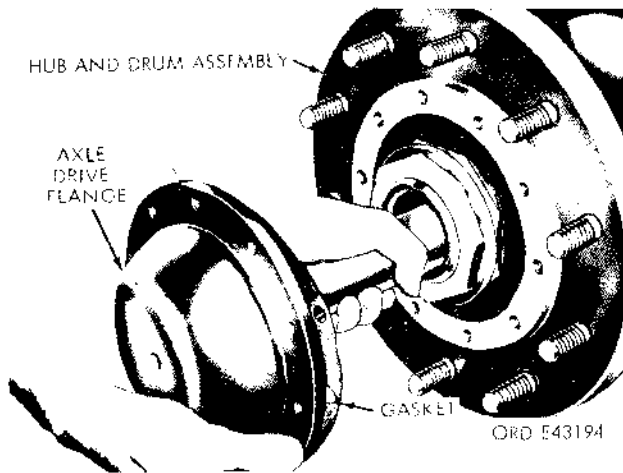

Figure 2-175. Removing rear axle shaft.
(1) Remove the 10 screws and lockwashers securing the axle drive flange (fig. 2-175) to the hub and drum assembly.
(2) Remove the axle shaft by pulling on the axle drive flange (fig. 2-175). Remove and discard the flange gasket.
(1) Slide a new gasket (fig. 2-175) over the splined shaft end and hold the gasket in position on the flange.
(2) Insert the splined end of the shaft in the hub. Push the axle drive flange inward toward the center of the truck. Carefully guide the shaft splined end into the splined differential side gear.
(3) Aline the ten drive flange holes with the ten matching holes in the drum. Install 10 screws and lockwashers. Tighten the screws to 70-80 ft.-lb. torque.